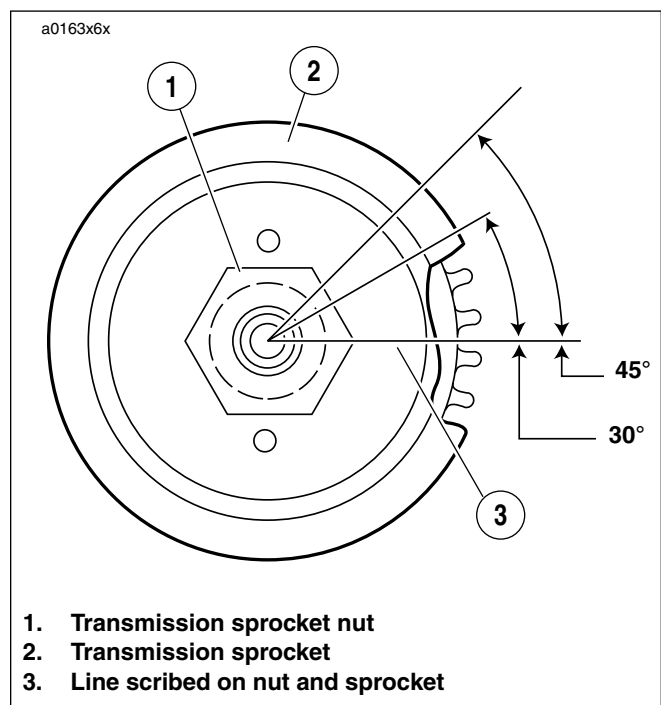

Figure 6-103. Aligning Transmission Sprocket
7. See Figure 6-103. Scribe a line on the transmission sprocket nut and continue the line on the transmission sprocket as shown.